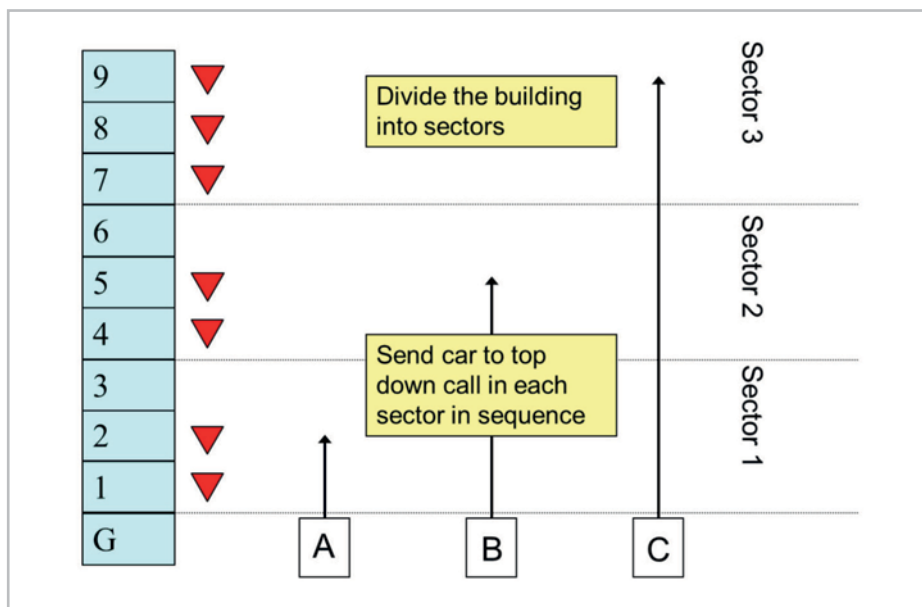

Figure 1 Down peak algorithm
If we can reduce the number of stops (S) and the average highest reversal floor (H), the round-trip time (RTT) will become smaller. This is what happens when you implement a group collective down-peak algorithm [10], as illustrated in Figure 1. The building is divided into sectors, and the dispatcher sends a lift to each sector's top-down call in turn. The lifts are not fixed to a particular sector as the round-trip is longer for a higher sector than for a lower sector. In this specific implementation, if the lift is not full when it reaches the bottom of its sector, it can stop for additional passengers as it passes through lower sectors.